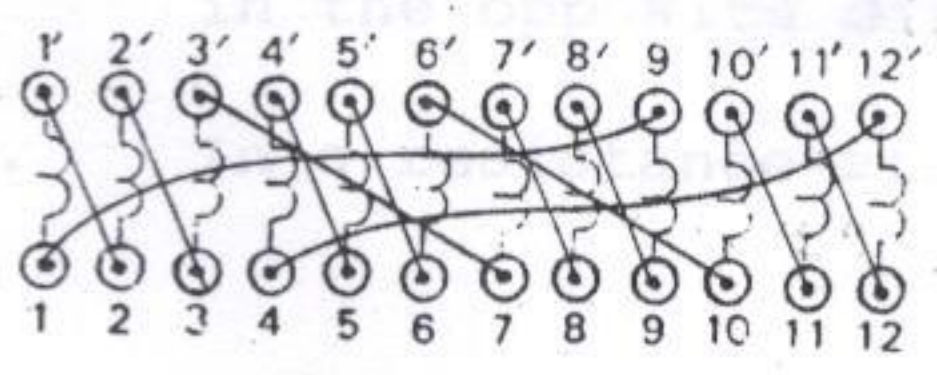

FIGURE 25: SINGLE-PHASE INDUCTION MOTOR
1. Connect the Universal Machine to operate as a single-phase motor as shown in Figure 25. The current coils of the meters MUST be shorted when starting.
2. Connect the Dynamometer to operate as a shunt generator as shown in Figure 25. Adjust its field rheostat to the maximum resistance (fully clockwise) position.